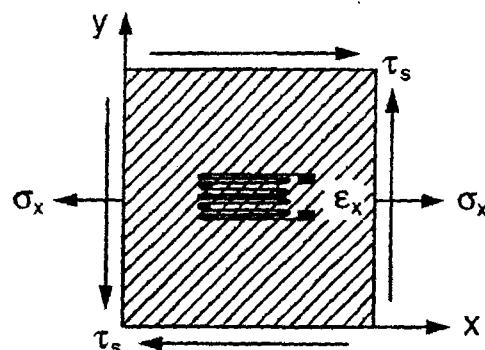

Figure 4(c)
- (c) An off-axis unidirectional CFRP lamina is loaded as shown in **Figure 4(c)**, and the strain ε_x in the x -direction is measured with a strain gage.